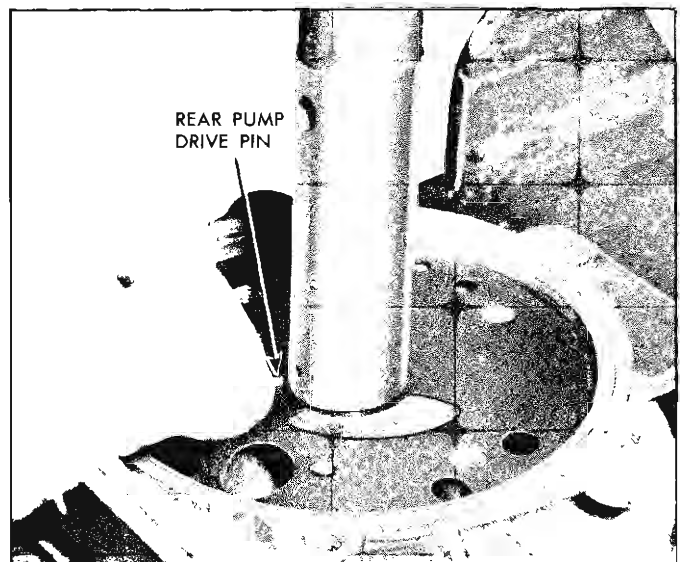

Fig. 10—Removing Rear Oil Pump Drive Pin
9. Remove the oil pump drive pin (fig. 10). This is of extreme importance. Do not fail to remove this drive pin.